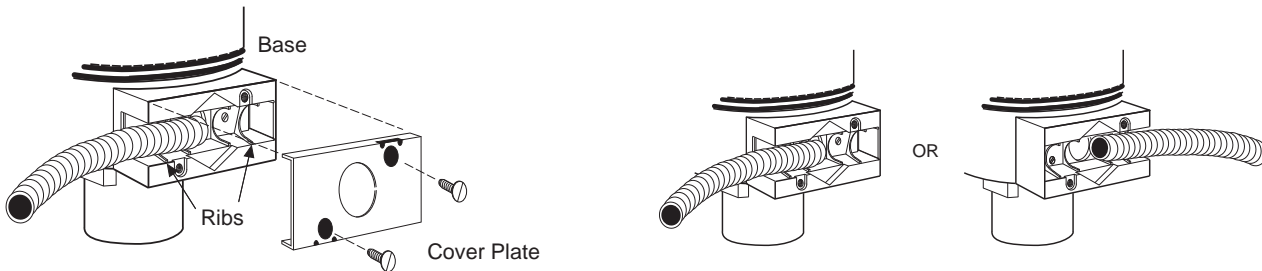
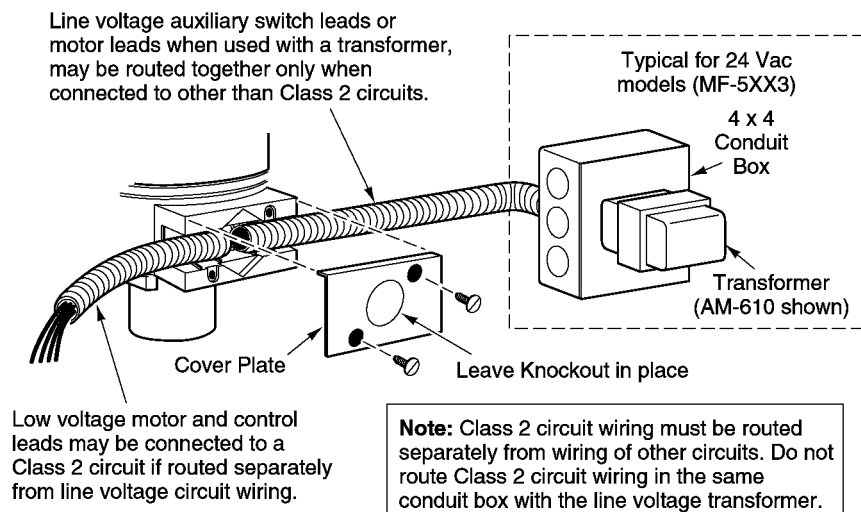

Figure-7 Flexible Conduit Installation to Either Side of Actuator.
Figure-8 MF-5XX3 Series Wiring with Separation for Class 2 and Line Voltage Circuits.
The control leads may be connected to a Class 2 circuit if routed separately from Class 1 circuit wiring. Refer to Figure-8.
The low voltage (24 Vac) power leads may be connected to a Class 2 circuit if routed separately from Class 1 circuit wiring. Refer to Figure-8. Refer to Table-6 for maximum length of run for given wire size(s).
The line voltage (120 Vac and 240 Vac) auxiliary switch leads must be connected to a Class 1 circuit and routed separately from any Class 2 circuit wiring. Refer to Figure-8.
Flexible conduit may be installed onto one or both sides of the actuator. Refer to Figure-7 and Figure-8. Install each conduit as follows:
4. Slip the conduit onto the base, over the ribs. Refer to Figure-7 and Figure-8.